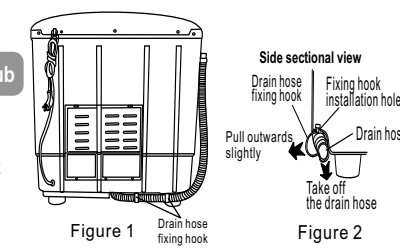

Figure 1
• Figure 1 indicates the ex factory installation position of the drain hose.